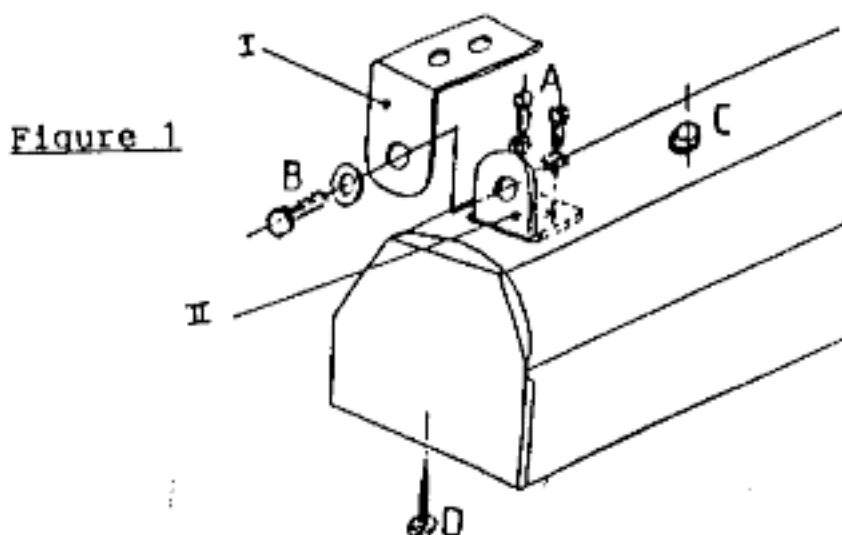

Figure 3
- Mounting and disassembling of the emitters as indicated on Fig. 3.